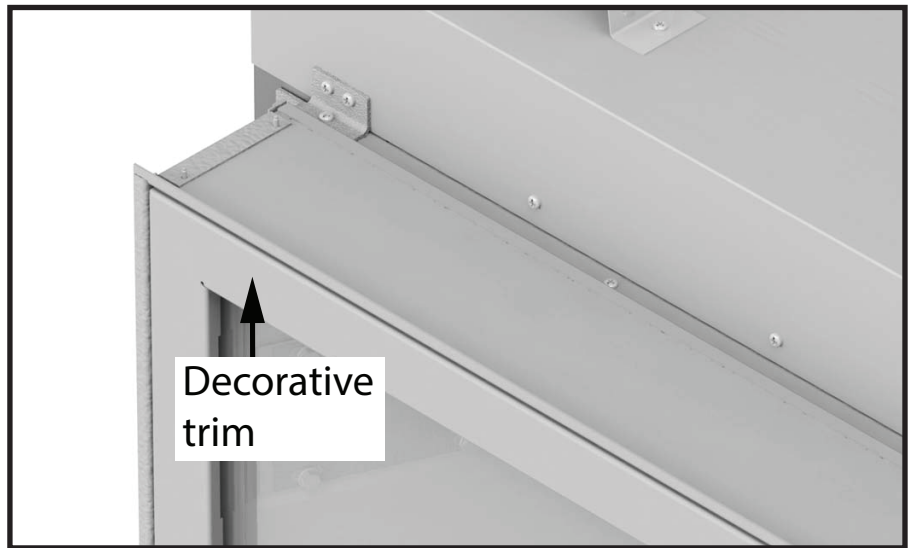

Figure 19: Decorative trim.
2. Remove the decorative window trim by lifting and pulling it to disengage from the window frame (Figure 19).